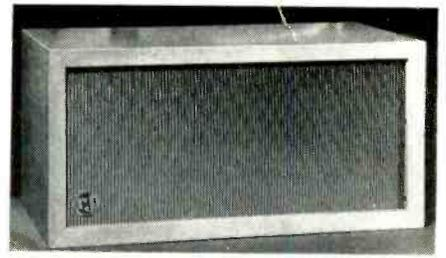

Fig. 64. R-J enclosures came early in the diminutive era. This one is designed for Wharfedales.
*R-J Audio Products, Inc., 164 Duane Street, New York 13, N. Y.* is the seller of the R-J enclosure, the first and most widely publicized of the undersized enclosures. The inside is built to act as a Helmholtz resonator at a frequency somewhat lower than the speaker's resonant frequency to extend the bass, and an area is provided to load the speaker acoustically at resonance so as to flatten the peak and prevent boom. The newest model, the "Wharfedale," shown in Fig. 64, is only 11 in. high by 10 in. deep by 23½ in. long, yet claims a frequency response of 50 to 16,000 cps. It utilizes a special 8-in. Wharfedale speaker unit which incorporates an aluminum voice coil and cloth suspension as well as a felt "buffer" between the cone and frame. The front grille front is made of "Expamet"—an expanded gold-anodized aluminum—which is of one piece construction to preclude the possibility of rattle.